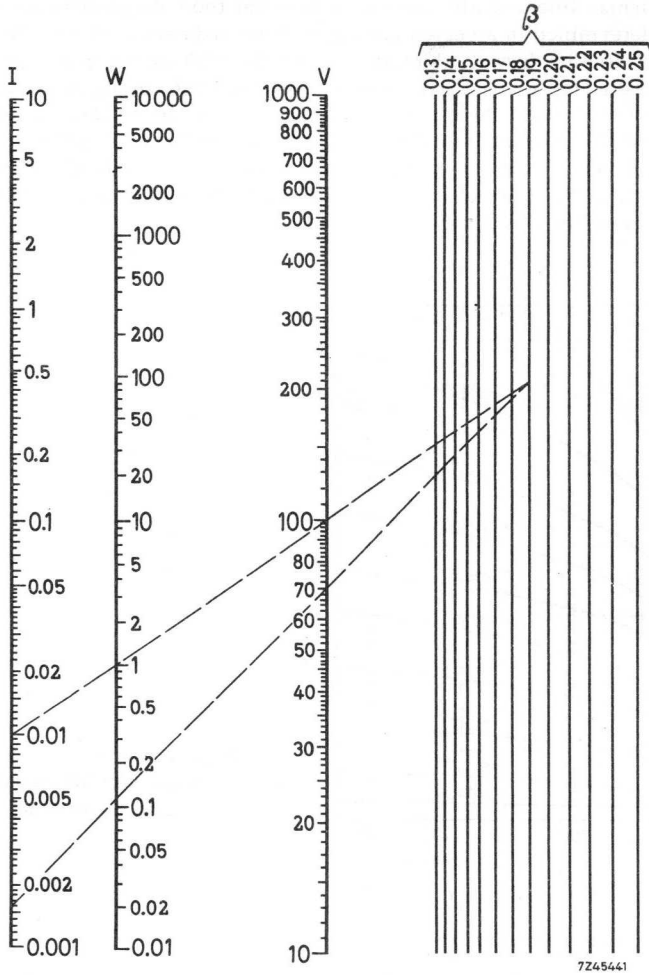

Fig.3.
To avoid cumbersome calculations with broken exponents eq. (1) is elaborated into a nomogram, Fig. 3, which gives by a simple construction the corresponding values of voltage and current for any given VDR.
According to formula (1) it is possible to specify the electrical characteristics of a VDR resistor by giving its C - and β -values. The advantage of this specification is that only two parameters are used. The disadvantage is, however, that due to the inevitable tolerances on the β -values, the spread in voltages at low currents (in the working area) becomes very large. It is for this reason that the method of specifying by the C -value defined at 1 A is abandoned and we now specify the voltage across the VDR at currents which lie in the working area (1, 10 or 100 mA instead of 1 A). In this way it is possible to supply VDR's which have much closer tolerances in the area where they are used, see Fig. 14. In theoretical calculations it is much easier, however to use the C -value. Therefore the formula $V = CI^\beta$ is used. When a calculation leads to a certain C -value, the voltage at currents of 1, 10 or 100 mA can be found with the aid of the nomogram (Fig. 3).